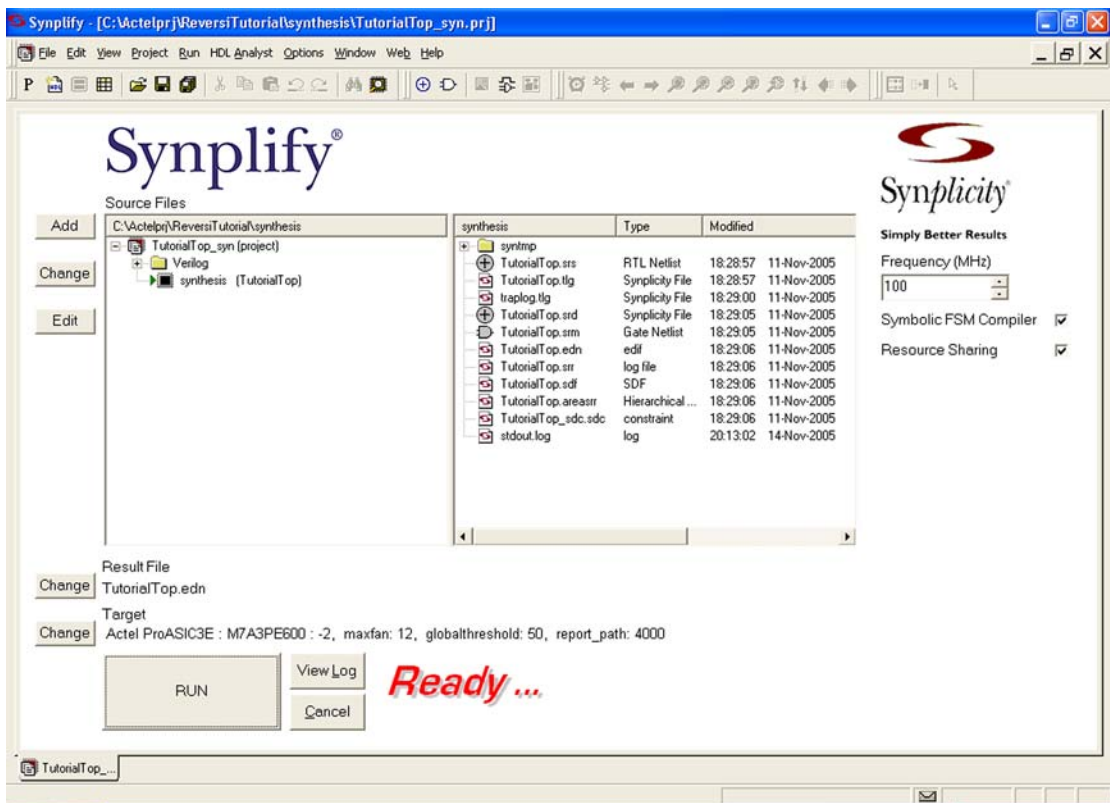

Figure 5-37. Synplify Synthesis Main Window
1. In Libero IDE, click the **Synplify Synthesis** icon in the Design Flow window, or right-click the *TutorialTop.v* file in the Design Hierarchy and select **Synplify Synthesis**. This launches the Synplify synthesis tool with the appropriate design files, as shown in Figure 5-37.